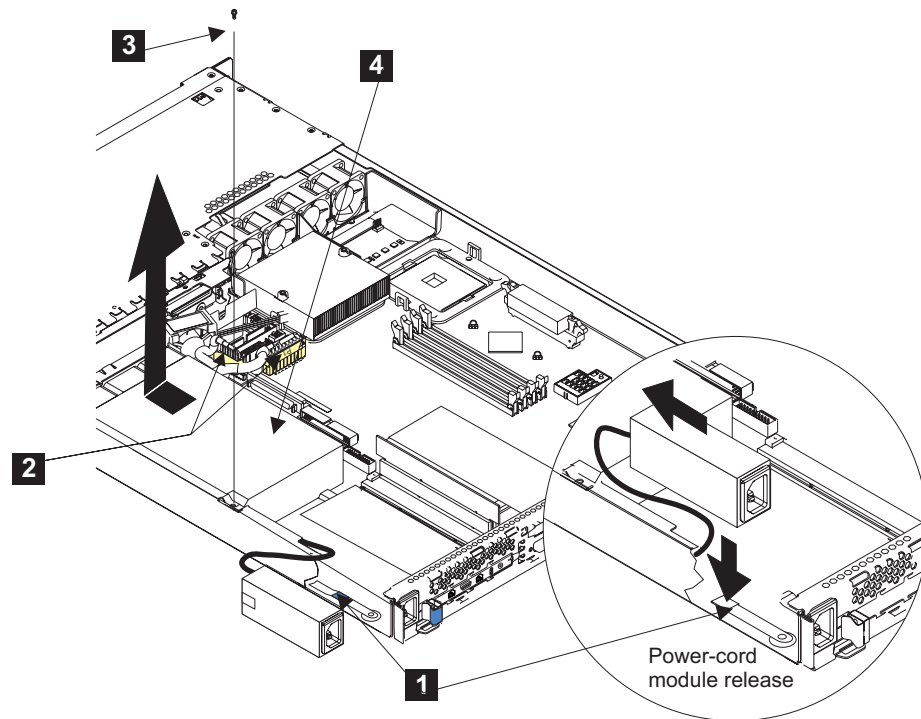

Figure 134. Replacing the SAN Volume Controller 2145-4F2 power supply
1. Slide the power supply **4** into the SAN Volume Controller 2145-4F2. See Figure 134 on page 389.